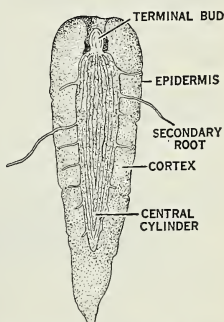

Fig. 341. The root of a carrot plant.
**How a root is built.** Certain cells in the root are especially adapted to absorb water from the soils, others to pass solutions along rapidly, and still others to store materials. When you split a carrot lengthwise, you can easily make out three distinct regions—the *epidermis* (outer skin), the *central cylinder* (a more woody part in the center), and the *cortex* (the fleshy part between the epidermis and the cylinder) (Fig. 341).